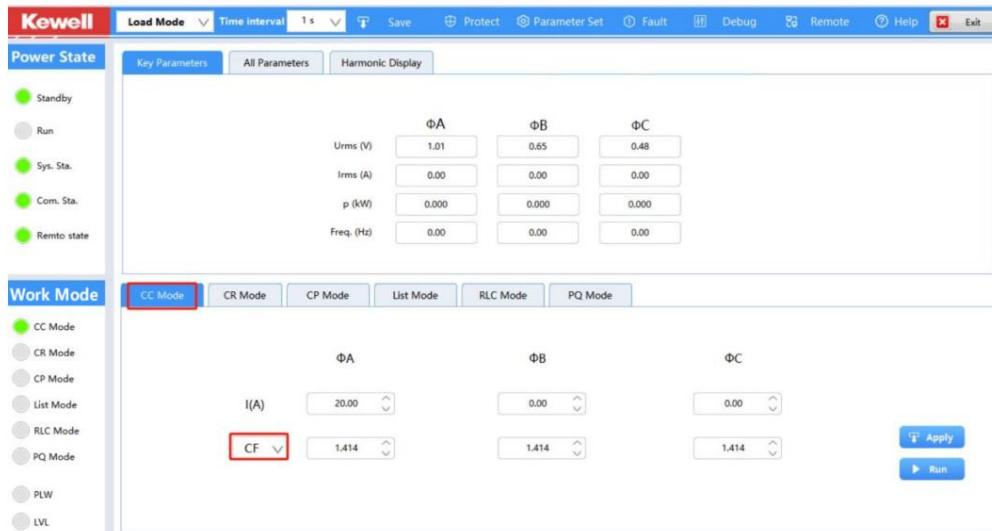

Fig. 4-19 Load mode
The G6000UG Series is compatible with general AC load functions, supporting multiple output modes including constant resistance (CR), constant current (CC), constant power (CP), and power-quality (PQ). It allows for setting power factor and peak factor, and through List programming, multiple combined steps can be preset to achieve DUT dynamic loading, as shown in Figure 4-19.